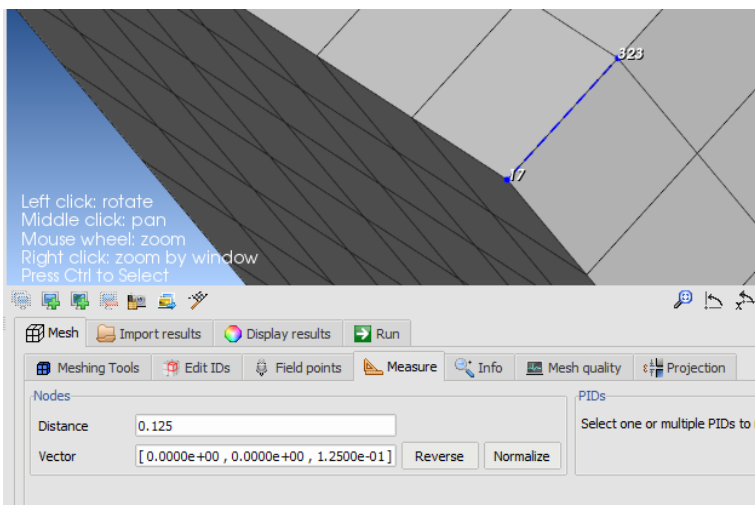

Figure 11.2: Measure distance between two nodes
2. When selecting 2 nodes, the distance and associated vector is provided and shown. This process is shown in figure 11.2. The vector information can then be reversed (direction) or normalized to a unit length.